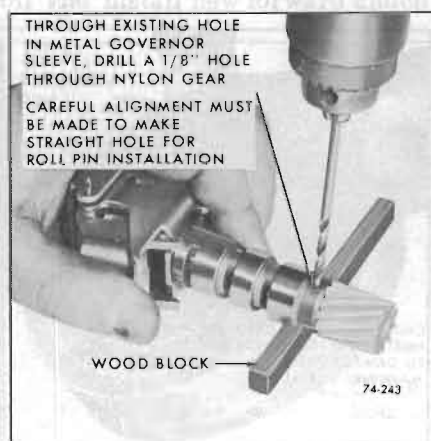

Figure 74-243
2. Through existing hole in governor sleeve, drill a 1/8" hole half-way through from each end. See Figure 74-243.